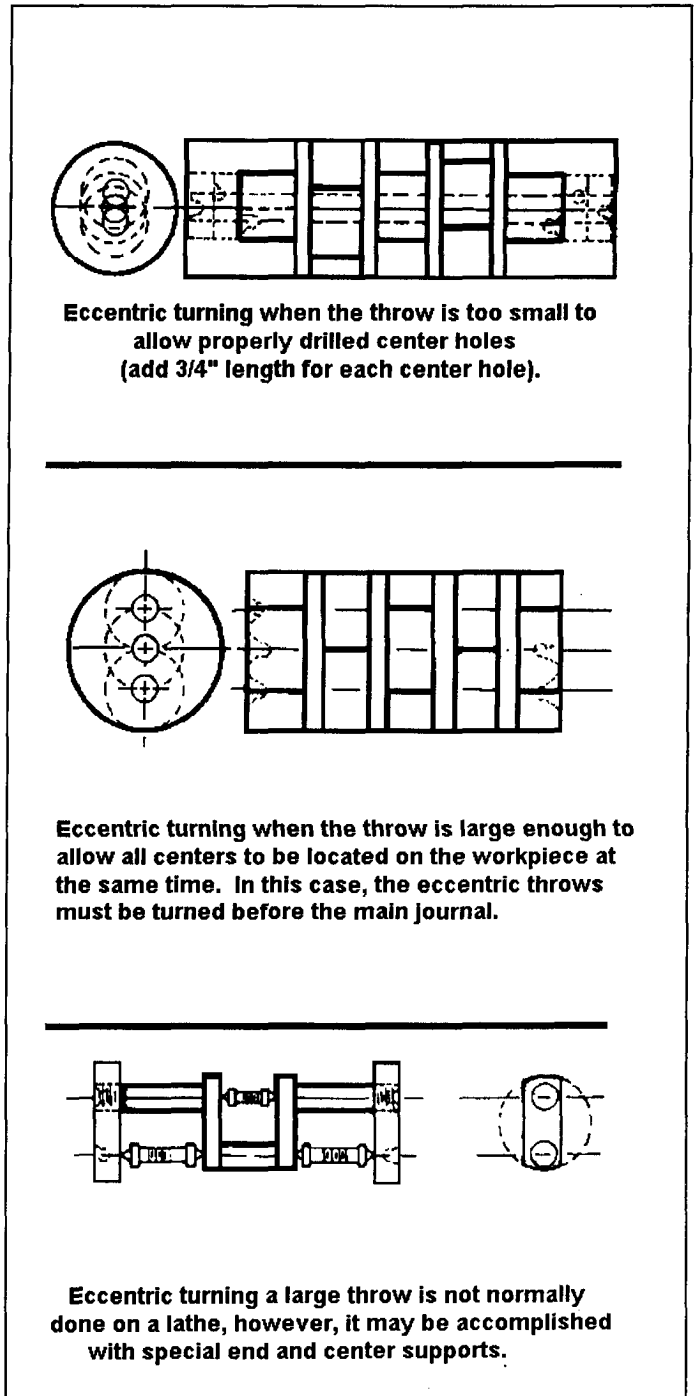

Figure 7-102. Eccentric turning.
- First determine the stock required by adding the throws plus 1/8 inch for machining (Figure 7-102).
the stock $3/4$ inch oversized and just face both ends to clean up the saw cuts. Lay out and center-drill the normal, center axis and turn down those diameters on the center axis with the work mounted between centers. Remove the work and remount into a chuck. Face both ends to the required length and center-drill the offset centers. Remount the work between these centers and machine the eccentric diameters to size. For eccentric work that has a limited distance between each center, this method is safer than trying to use a very shallow center-drilled hole to hold the work between centers (Figure 7-102).
If the lathe is to be used to turn a crank with a great throw, or a throw that is greater than normally machined on a lathe (Figure 7-102), special throw plates must be fabricated to hold the ends of the work while turning. The special throw plates will be used as support blocks to enable the offset center holes to be machined into the throw plates and allow for eccentric turning. eccentric turning, it is not recommended for normal lathe operations. Special crankshaft turning and grinding equipment is available for this type of machining.